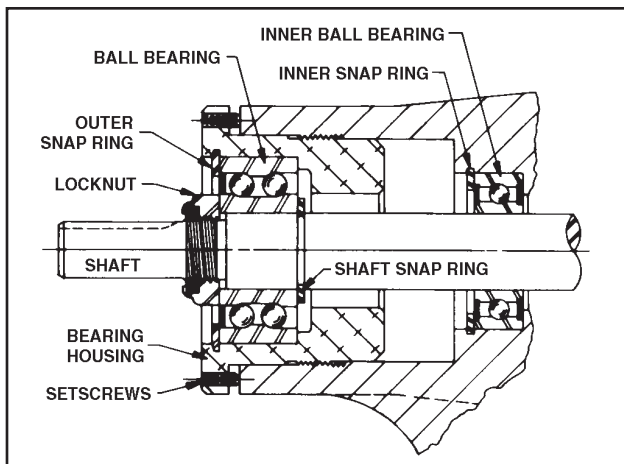
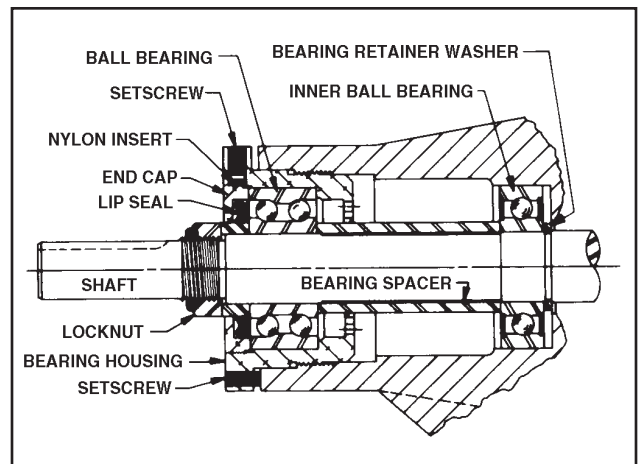

Figure 20 - Thrust-Bearing assembly (GG, HJ, HL)
Figure 21 - Thrust-Bearing assembly (AS, AK, AL)
5. Insert a brass bar or piece of hardwood in the port opening and between rotor teeth to keep shaft from turning. Turn the locknut counterclockwise and remove locknut. See Figure 20 or 21.
6. Loosen two setscrews in face of bearing housing and turn thrust bearing assembly counterclockwise and remove from casing. See Figure 20 or 21.
7. **GG, HJ, HL:** Remove snap ring from shaft. See Figure 20. **AS, AK, AL:** Remove bearing spacer from shaft. See Figure 21.
10. **AS, AK, AL:** Remove bearing retainer washer. The washer may have stayed with rotor and shaft when removed or is against ball bearing. See Figure 21.
GG, HJ, HL: Remove outer snap ring from bearing housing and remove ball bearing. See Figure 20.
AS, AK, AL: Loosen two set screws in flange outside diameter. Rotate end cap and lip seal counterclockwise and remove. Remove ball bearing. See Figure 21.
12. **GG, HJ, HL:** Install shaft snap ring in groove in the shaft. See Figure 20.
AS, AK, AL: Install bearing spacer over shaft and against single row ball bearing. See Figure 21.
13. **Pack lubrication chamber between** inner ball bearing and double-row ball bearing in the thrust-bearing assembly approximately one-half full of multipurpose grease, NLGI #2. The thrust-bearing assembly will take the remaining space. See Figure 20 and 21.
AS, AK, AL: Install ball bearing into bearing housing. Install lip seal in bearing housing end cap. The lip should face towards end of shaft. Put bearing spacer collar in lip seal and install in bearing housing and tighten setscrews securely. See Figure 21.
See Figures 20 and 21.